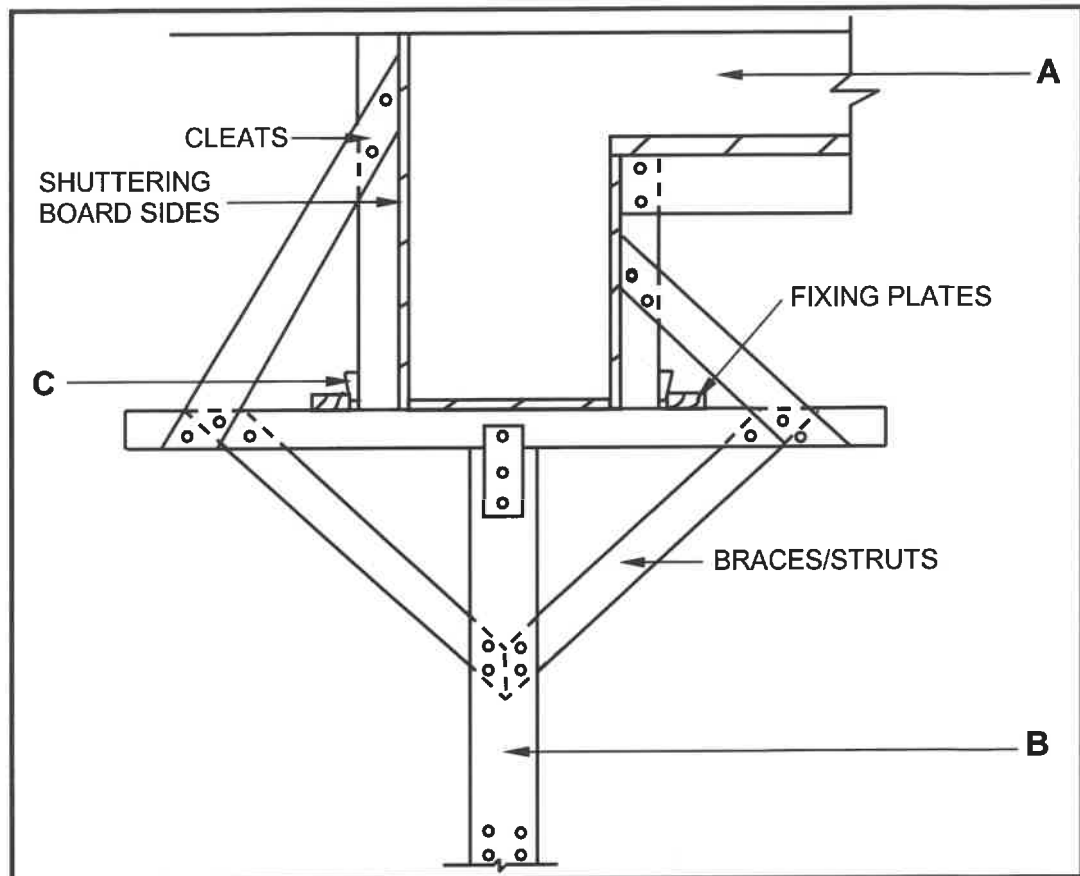

FIGURE 4.8
- Use ANSWER SHEET 4.7 and draw, in good proportion, a vertical sectional view of the shuttering for the excavated trench. Print any **TWO** labels. (12)
4.8 FIGURE 4.8 below shows formwork used on a construction site.